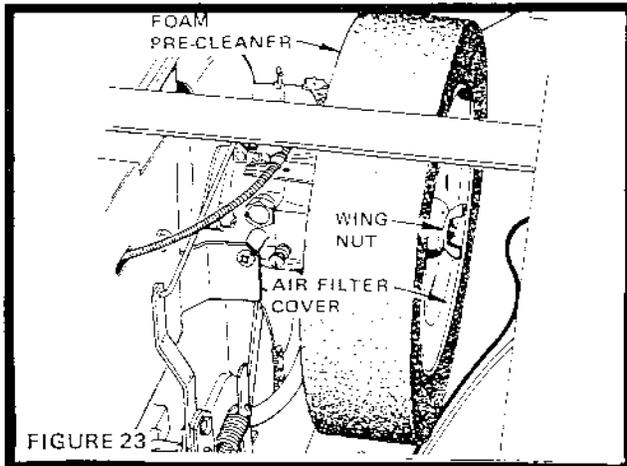

FIGURE 23
- Unscrew Wing Nut (Fig. 23) to remove Air Filter Cover, Paper Air Filter Element and Foam Pre-Cleaner.